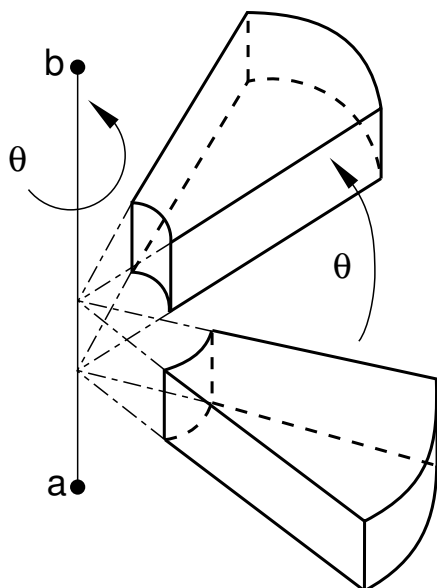

Figure 1: Rotation definition for import.
1. *X*-coordinate of point *a* on the axis of rotation (see Figure 1).